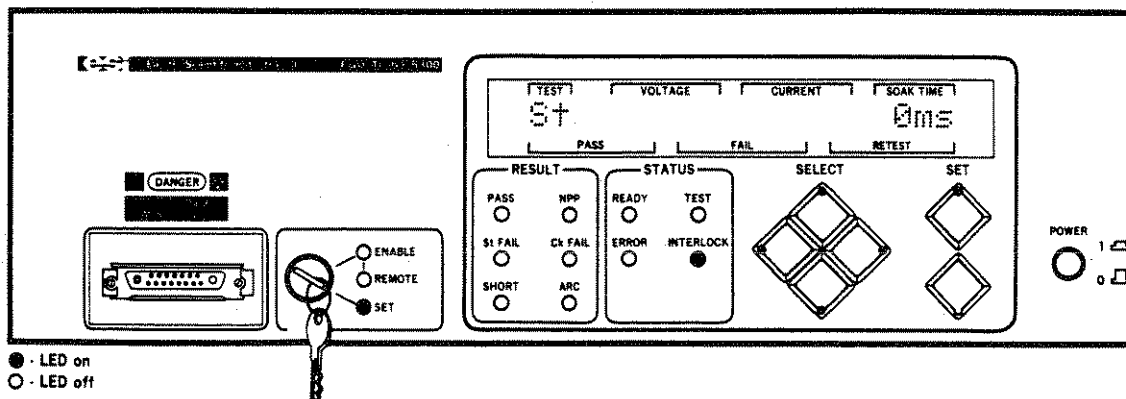

Figure 3-61. Selecting the Soak Time
- STEP 6. Press the RIGHT pushbutton twice to skip the Leakage Current setting and display the Soak Time. Refer to Figure 3-61 for an illustration of this condition.